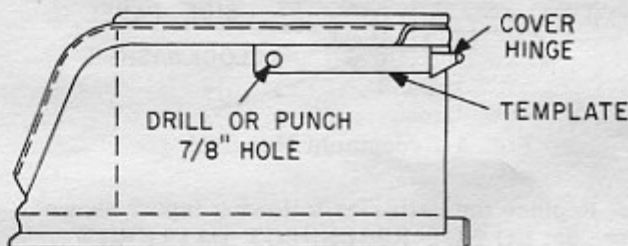

Fig. 2 Battery Box - Left Side View
NOTE: If the 7/8-inch hole is pre-punched as shown in Fig. 2, it may not be necessary to remove the batteries. Wires can be "fished" through the frame opening with a long, stiff wire inserted from below the frame. Refer to Step 7.
5. Locate and punch or drill a 7/8-inch hole in the left side of the rear battery box, using the template provided as shown in Fig. 2. Remove any metal chips from inside the battery box.